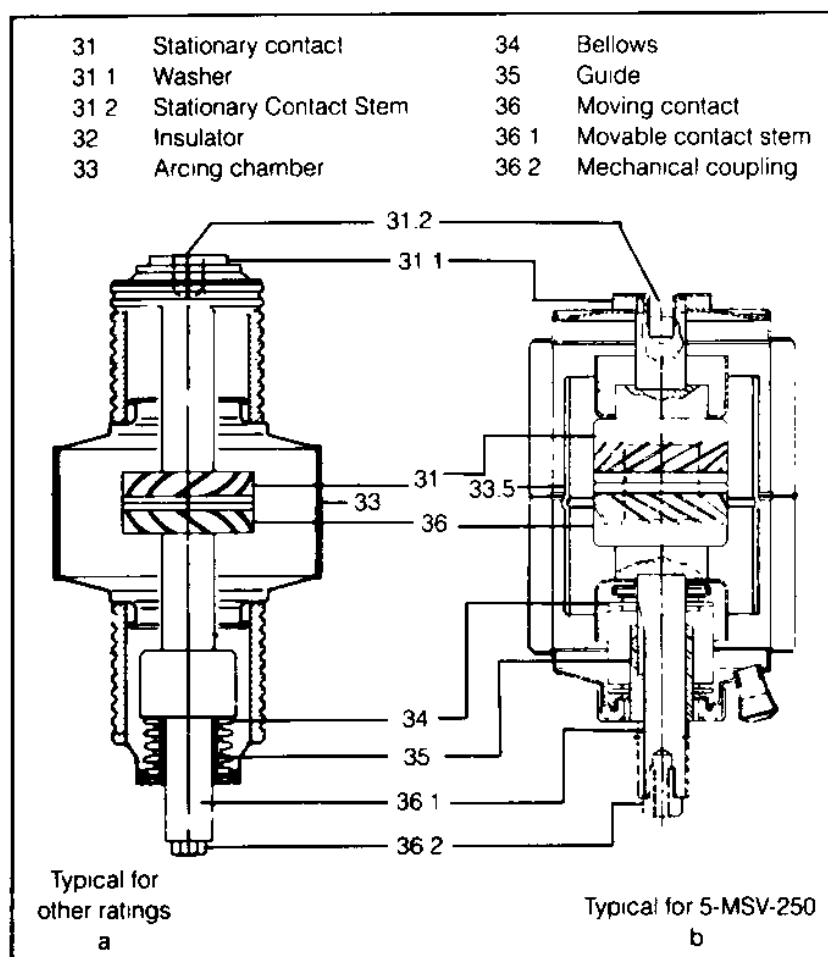

Figure 7 Section Through A Vacuum Interrupter
Vacuum Interrupter (Figure 7)
When the contacts separate, the current to be interrupted initiates an ionized metal vapor arc discharge and flows through this plasma until the next current zero. The arc is then extinguished and the conductive metal vapor condenses on the metal surfaces of the arcing chamber, (33), (Fig. 7) within a matter of microseconds. As a result, the dielectric strength in the increasing contact gap builds up very rapidly.